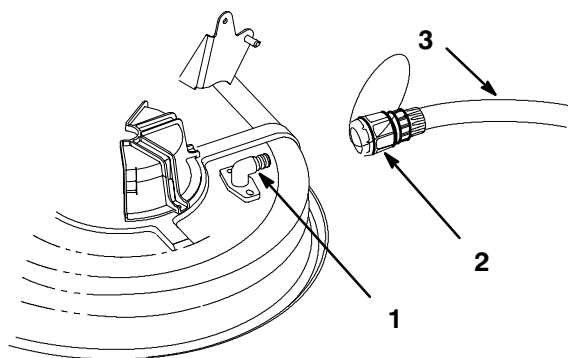

Figure 51
2. Attach coupling (not supplied) to mower washout fitting and turn water on high (Fig. 51).